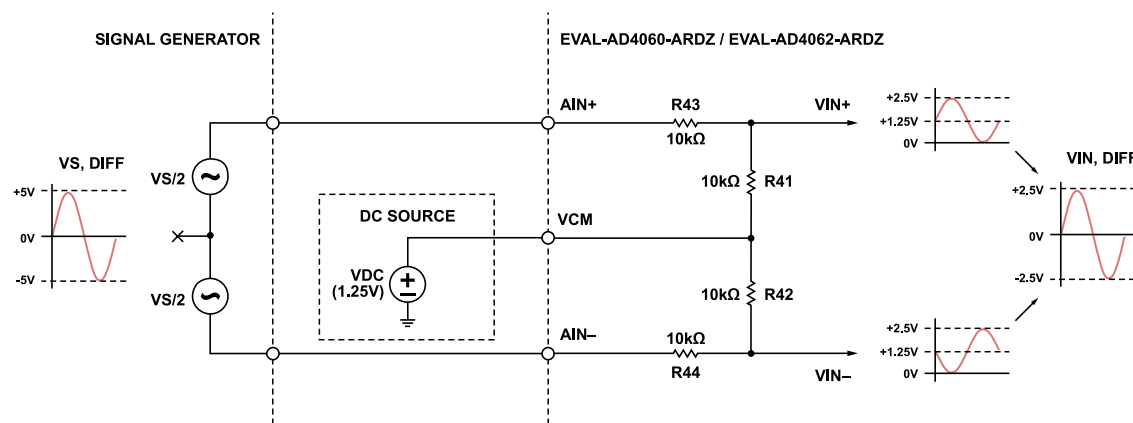

Figure 14. Floating Differential Signal Generator Example
- For signal generators with floating, differential outputs, the VCM input provides a means to apply the necessary DC offset to satisfy the input range specification of the MAX44260 amplifiers. Figure 14 gives an example with a 2.5V VREF and amplifiers in unity-gain configuration. The differential input swing (VIN,diff) is 5V peak or 10V p-p and VCM is 1.25V DC.